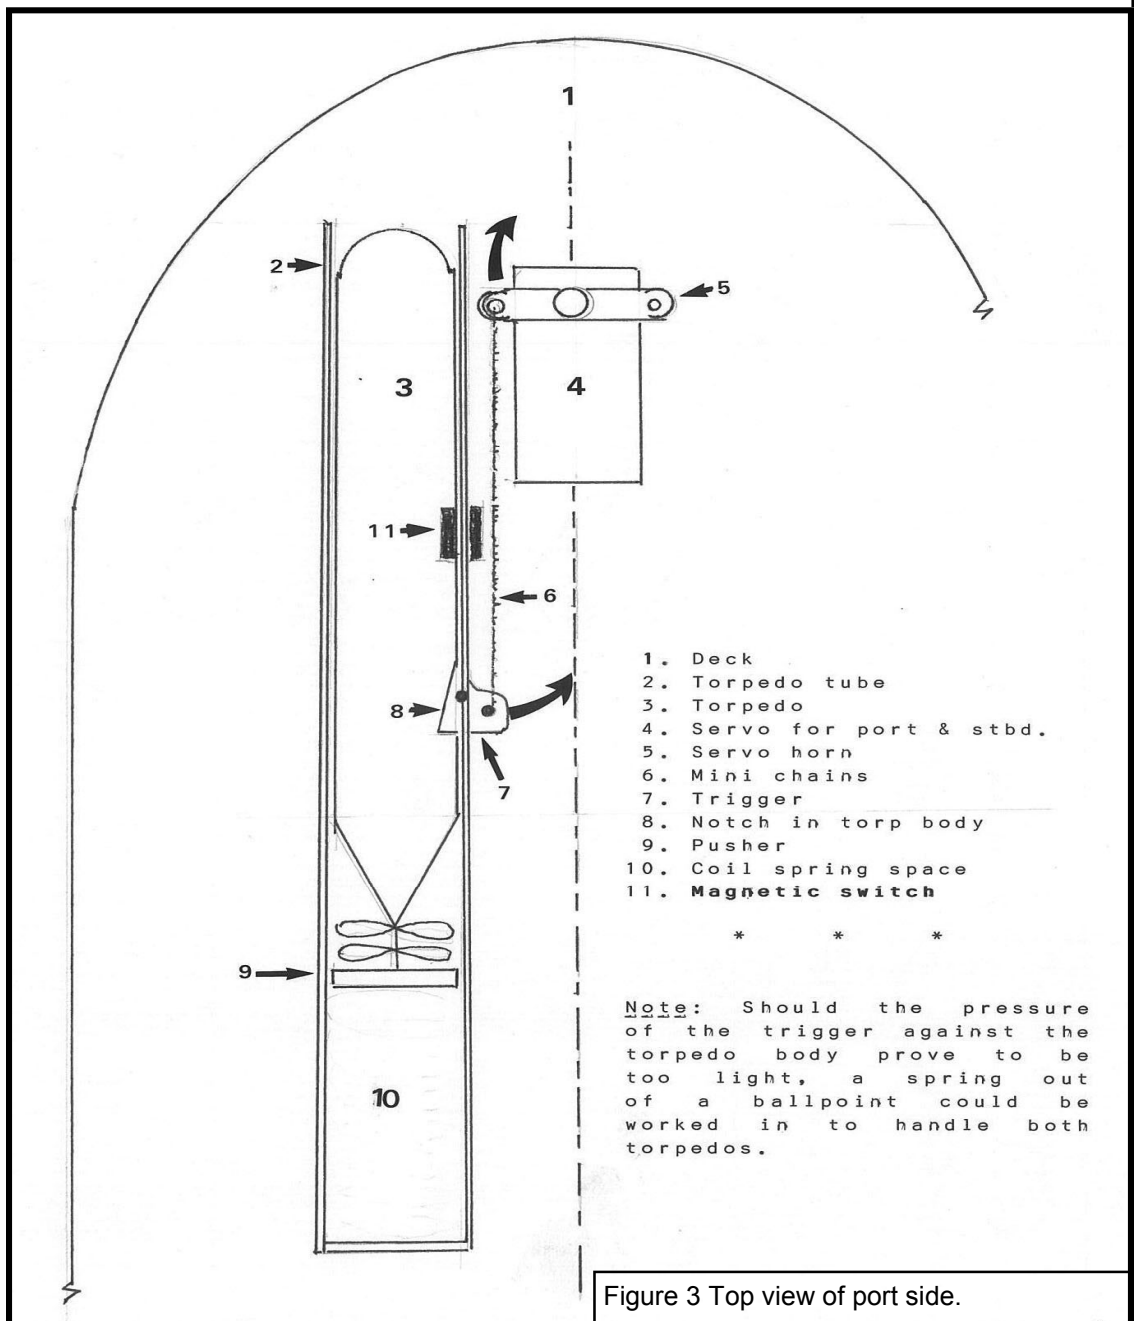

Figure 3 Top view of port side.
1. Servo-operated trigger and soft coil springs. One servo could handle both a port and starboard release (See Figure 3).